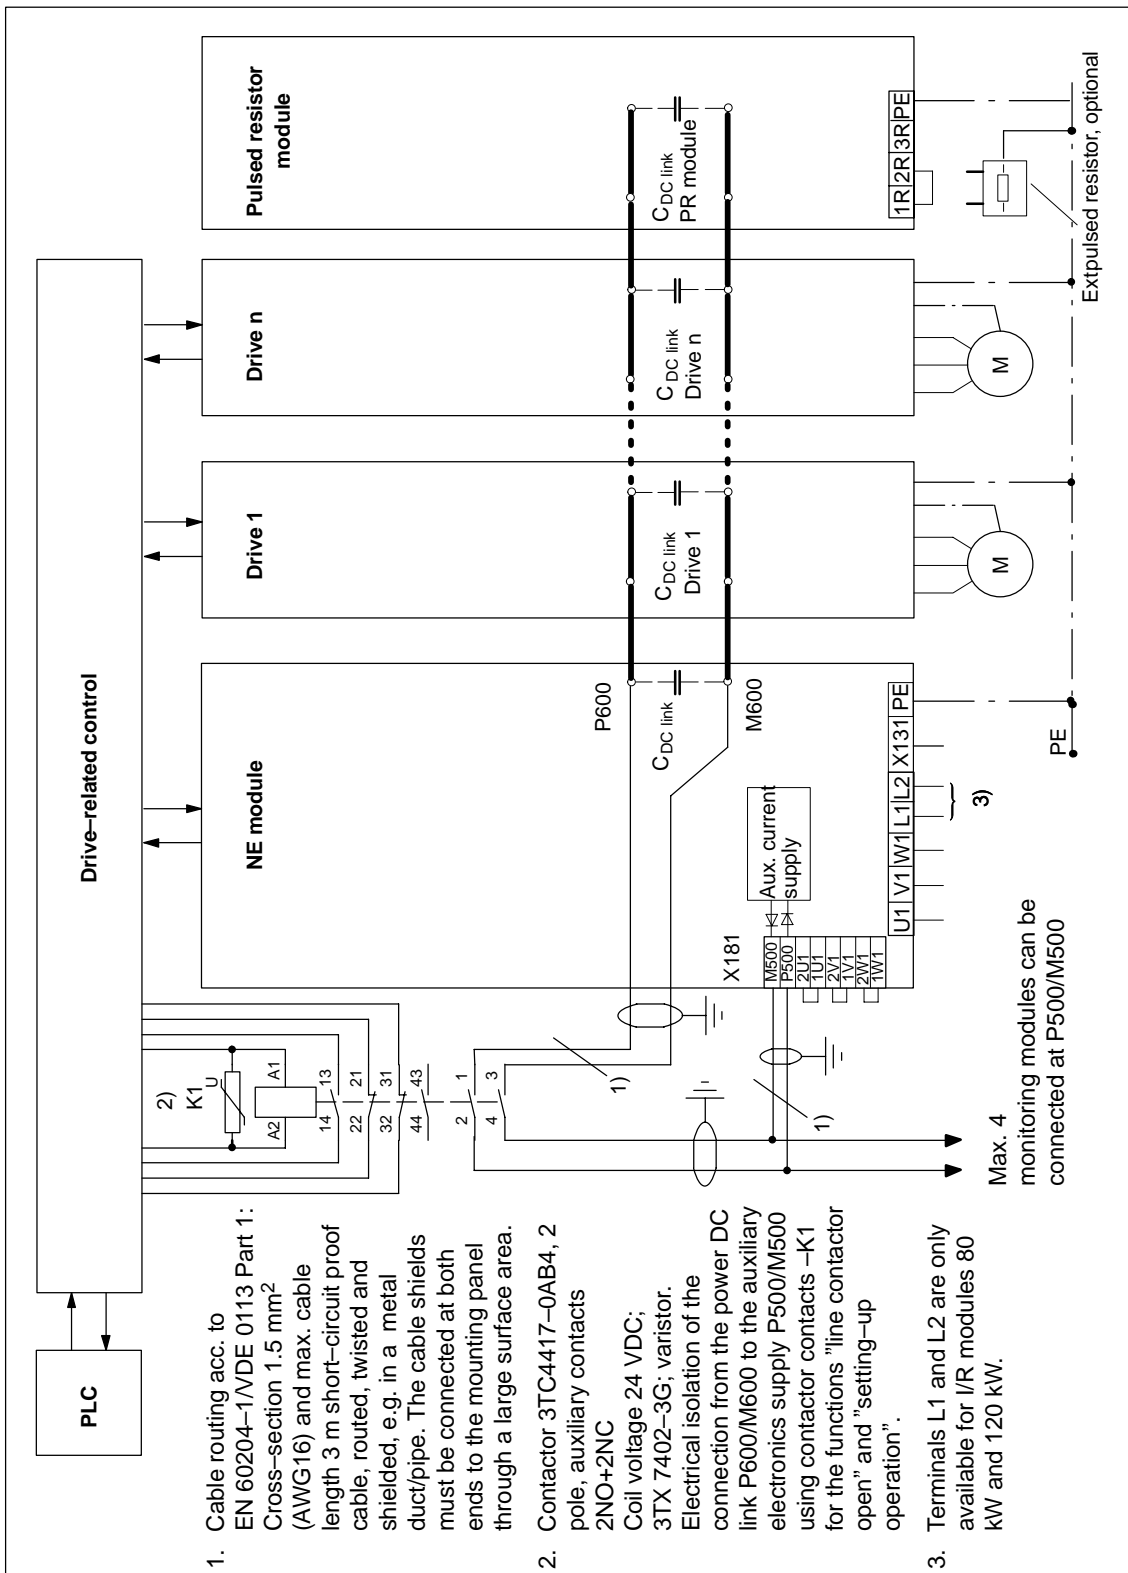

Fig. 8-34 Circuit example: Operation when the power fails
For operation when the power fails, stopping and/or retracting drive motion, the energy stored in the capacitors of the power DC link and the kinetic energy of the moved masses stored when the drives regenerate into the line supply can be briefly used. To do this, a connection must be established from the power DC link P600/M600 to the auxiliary power supply via the terminals P500/M500 in the NE module or in the monitoring module, refer to Fig.8-34.
**Information regarding the following circuit example, Fig. 8-34**